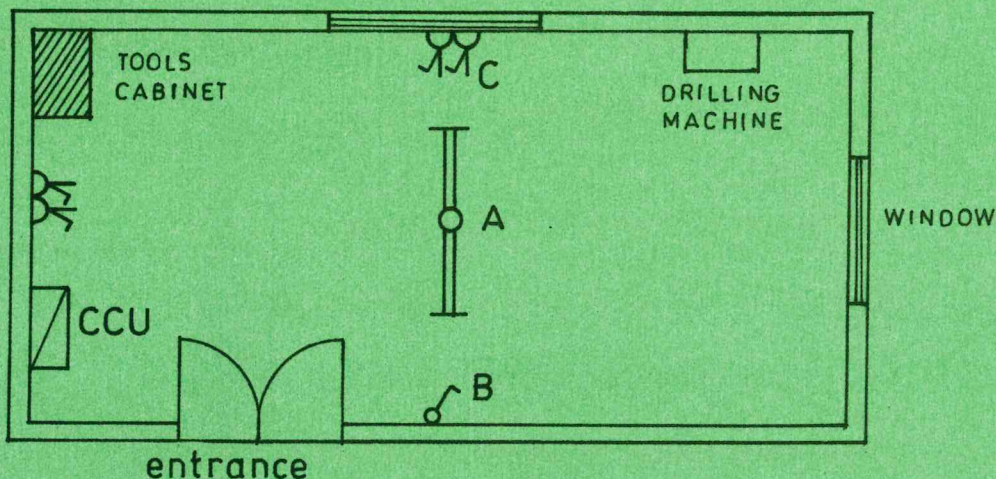

Fig. 1
- (c) Figure 1 shows the electrical layout of a workshop.